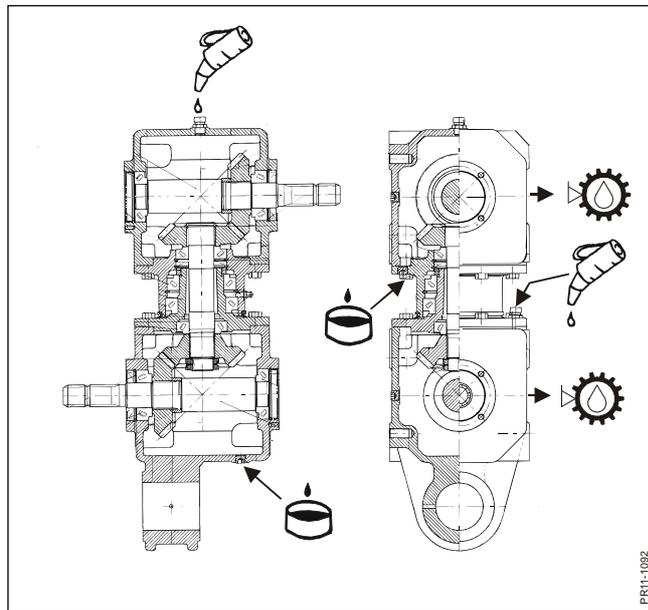

Fig. 4-9
- Fig. 4-9 **Oil content:** **k** Upper part: **2.3 l**